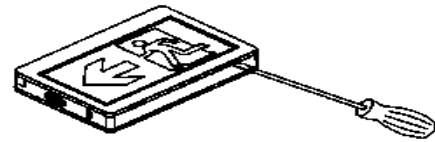

Fig 3
2. Knockout appropriate mount screw hole and cable hole, mount back plate on the wall after feed building AC supply cable into back plate(see Fig 3).
1. Open front cover by blade screwdriver (see Fig 3).